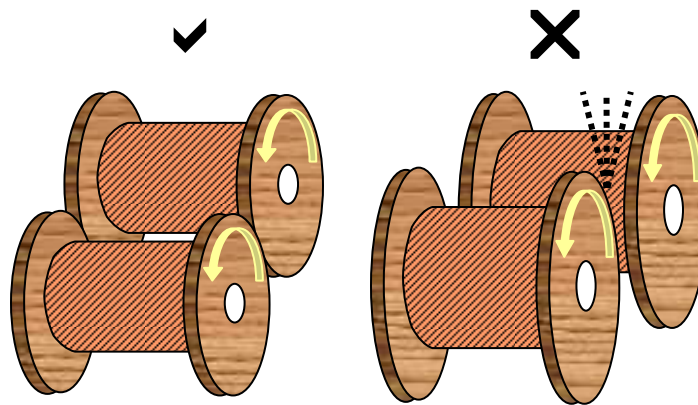

Fig 3. a) Open drums stored by touching flanges      b) Wrong storage
- If wrapper is removed from drum, their rolling edge should be lined up in rows with the flanges touching each other so that the flanges do not overlap with cable and accidentally damage it as shown in fig. 3.